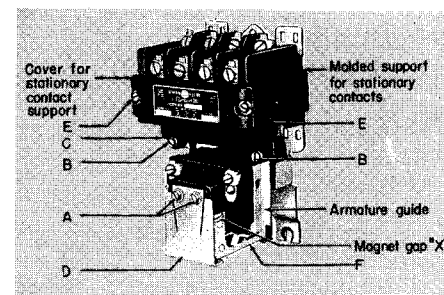

Fig. 1. Typical CR2810 Size 0 magnetic contactor
The CR2811-B magnetic switch is an enclosed CR2810-B11 contactor having two, three, four, or five poles. A typical magnetic contactor is shown in Fig. 1.
Remove screws (A), (B) and armature stop (D), Fig. 1. Push up on the operating arm for the movable contacts (C), grasp the coil with the other hand, keeping the thumb under the armature (F), and draw the coil and armature from the contactor. When reassembling make certain that the projections at the ends of the armature guide fit into the slots in the molded operating arm for the movable contacts. The two screws (A) are double heat treated. When replacing, tighten them securely.
Loosen screws (E), Fig. 1, and remove the cover for the stationary contact support. Then take out screws (B) and remove the operating arm for the movable contacts. By pushing the movable contact down and turning it sideways, it can be removed from the support.
If for any reason the stationary contact support is removed from the contactor base plate, reassemble as follows. Fasten the stationary contact support to the base plate with the three screws tightened slightly. For contactors having all normally open poles, or a combination of normally open and normally closed poles, but with normally open poles at the extreme left and extreme right, place a 3/32-inch spacer in the magnet gap "X," Fig. 1, on both sides and close the contactor manually. Adjust the contact support on the base plate so that the extreme normally open poles just make contact. Then tighten the screws.
For contactors having all normally closed poles, or a combination of normally open and normally closed poles, but with normally closed poles on the extreme left and extreme right, place a 3/32-inch spacer in the magnet gap "X," Fig. 1, on both sides and close the contactor manually. Adjust the contact support on the base plate so that the extreme normally closed poles
For contactors having only one normally open and one normally closed pole, place a 3/32-inch spacer in the magnet gap "X," Fig. 1, on both sides and adjust the contact support on the base plate so that the normally open pole will just make contact. After adjustment, tighten the screws.